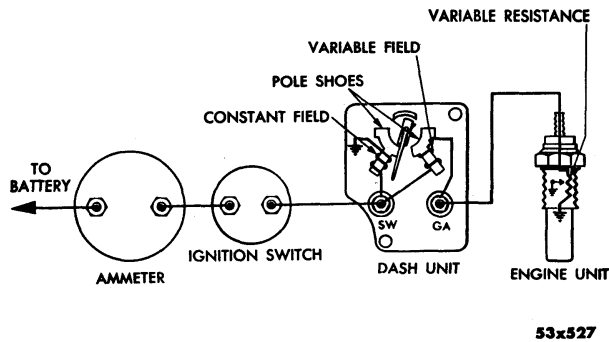

Fig. 5—Water Temperature Gauge
8. WATER TEMPERATURE GAUGE (Fig. 5)